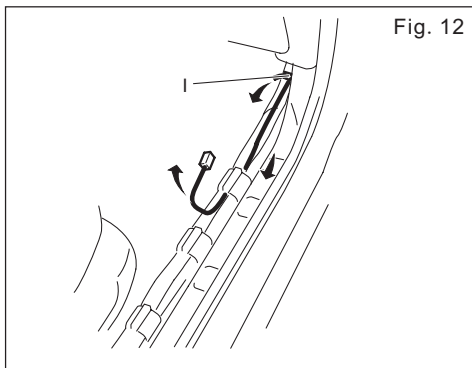

Fig. 12
- l) Route the long Harness E along the vehicle harness, and attach the long Harness E to vehicle's harness using the Tie Wrap I . (1 piece) . See in Fig. 12.